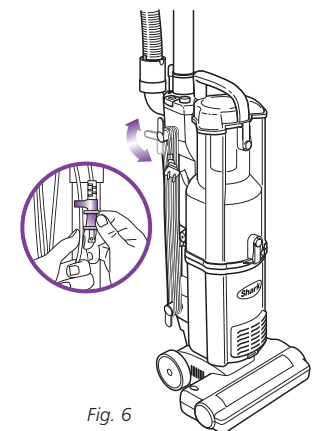

Fig. 6
- 6** When storing your vacuum, wind the power cord around the two cord holders and secure with cord clip. **(Fig. 6)**